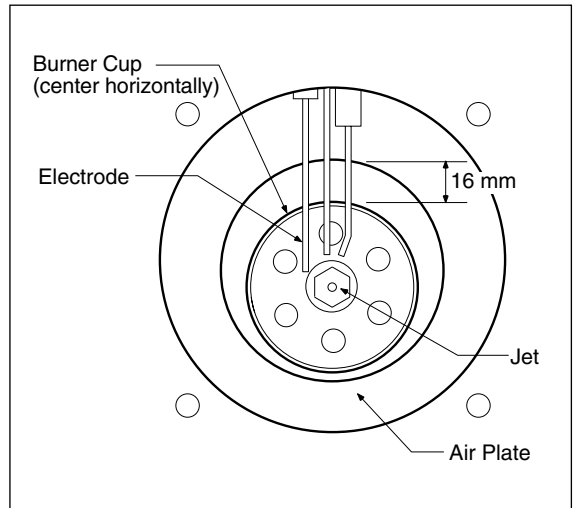

Figure 24 Burner Cup Position
- 10.3.4 Remove burner cup and jet; replace with the jet provided in the kit. Reinstall the burner cup. See Figure 24 for proper position of cup relative to the air plate.